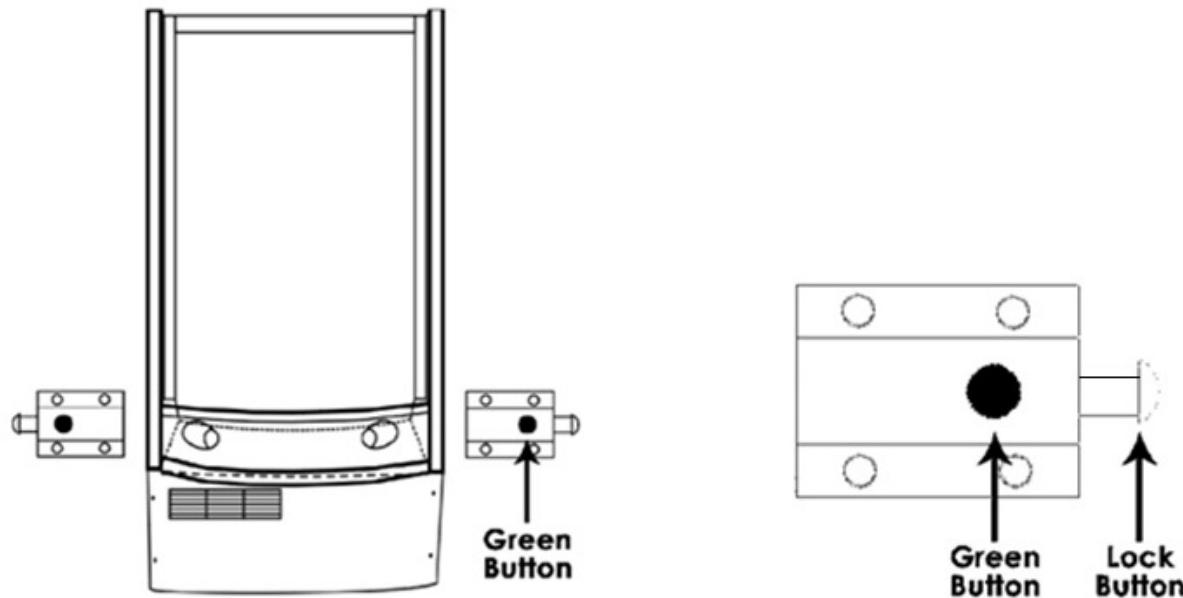

Fig. 4
On both sides of the fireplace locate the two (2) small pegs (Figure 4). Press the green button on both sides and then you can remove the logs or rocks to exchange with another option. Push the “Lock Button” to lock the chosen set of logs or rocks into place.